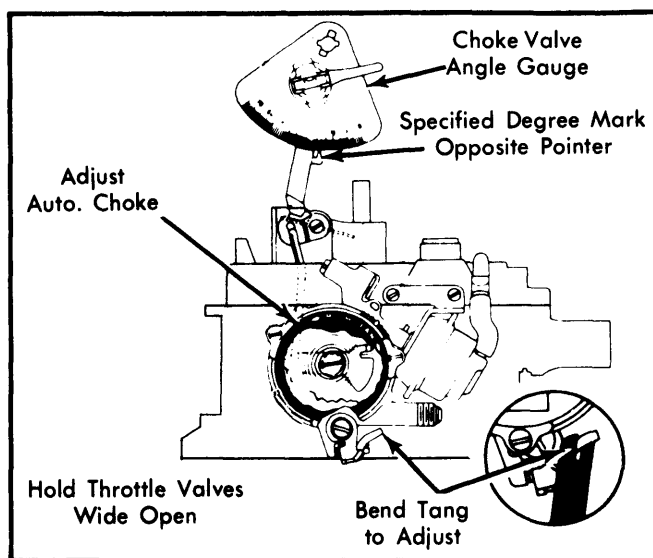

Fig. 8 Adjusting Choke Unloader
1) Adjust automatic choke as previously outlined. Hold throttle valves wide open. See Fig. 8.